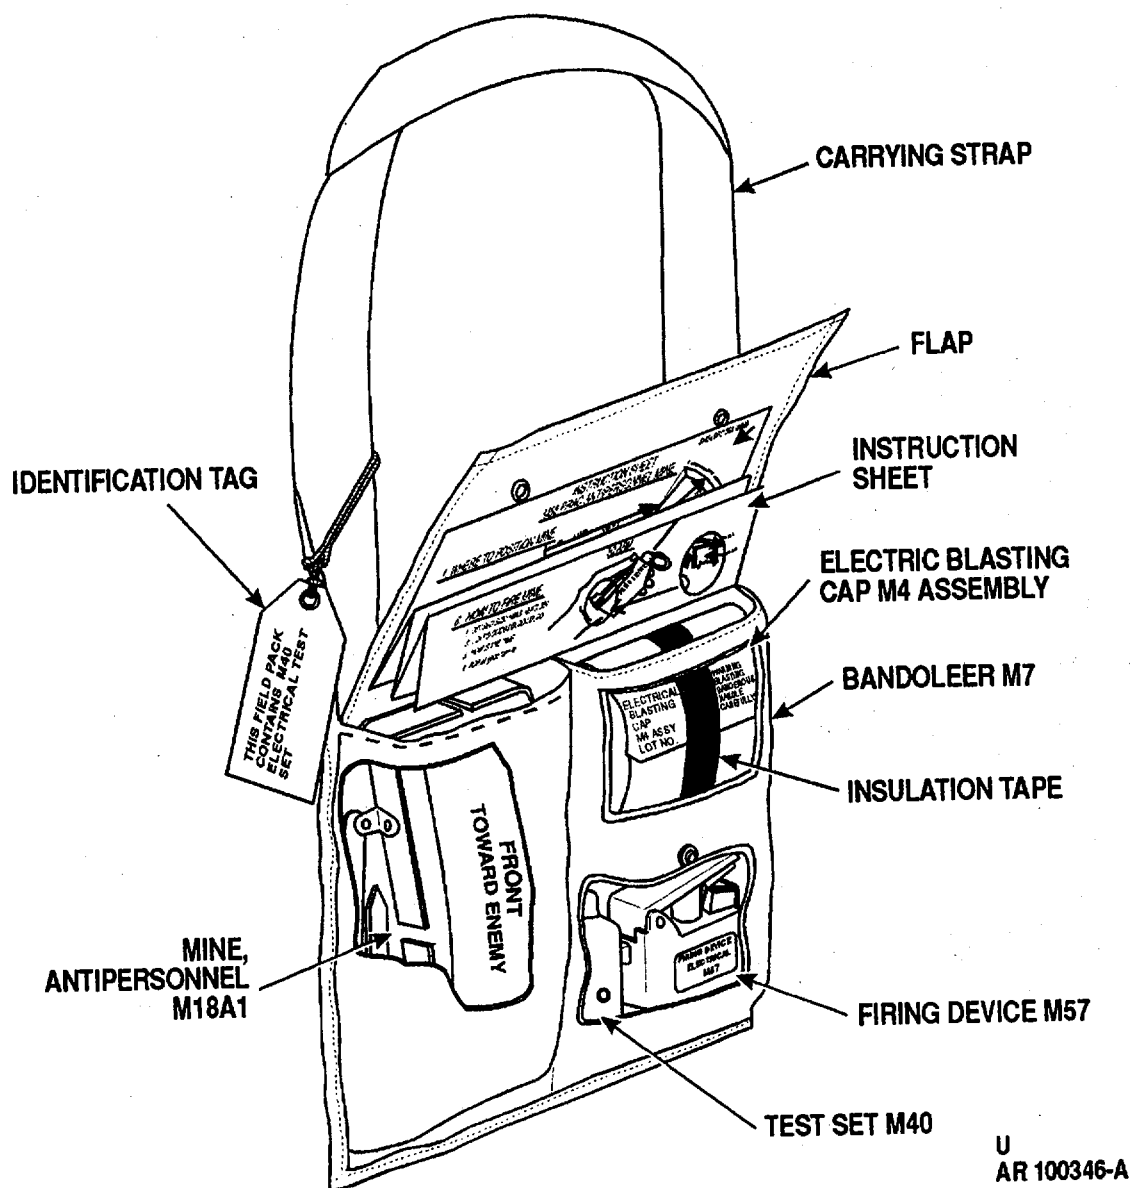

Figure 1-5. Mine, antipersonnel: M18A1 and accessories packed in bandoleer M7.
(2) The accessories of the mine (fig. 1-5) consist of a firing device M57, and hand-held pulse generator, test set M40 (used for checking continuity of mine firing circuit), and an electric blasting cap assembly M4, which initiates main charge of mine. The blasting cap assembly M4 con-